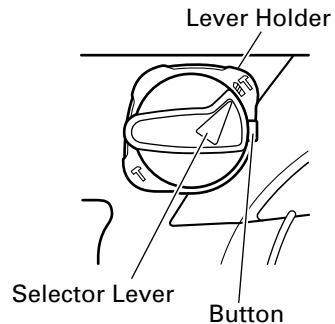

Fig. 7
- (b) Align ▲ of the selector lever and ■ of the lever holder as illustrated in Fig. 7.